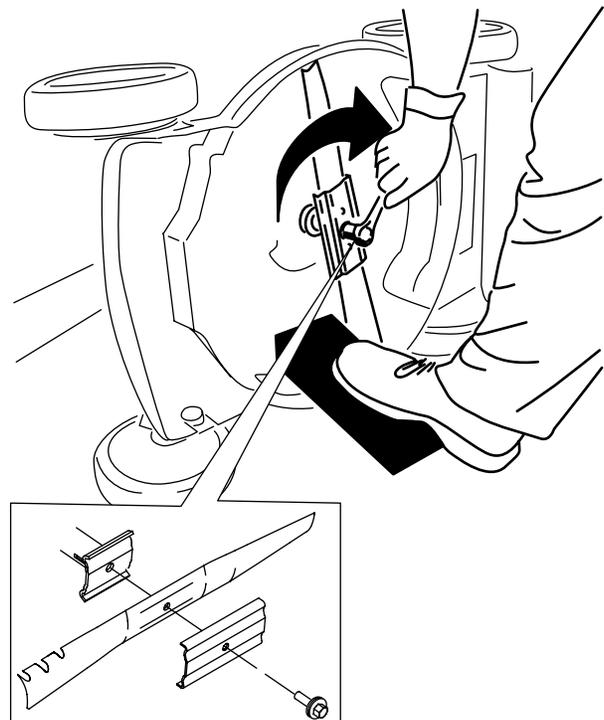

Figure 17
4. Install the new blade and the blade bolt (Figure 17).